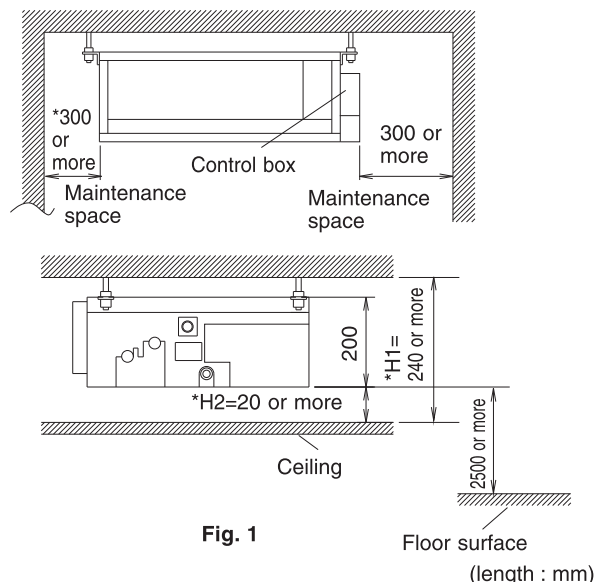

Fig. 1
(1) Select an installation site where the following conditions are fulfilled and that meets with your customer's approval.
- Where sufficient clearance for maintenance and service can be ensured. (Refer to Fig. 1)